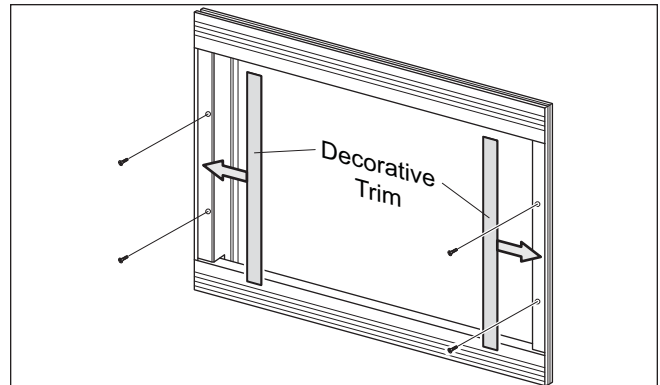

Figure 3. Placing Microwave in Cabinet Cutout
3. Attach the frame assembly directly to the cabinet frame, using four #6-18 x 1" wood screws. The inside edges of side frames should coincide with the edges of the cabinet cutout (See Figure 3).